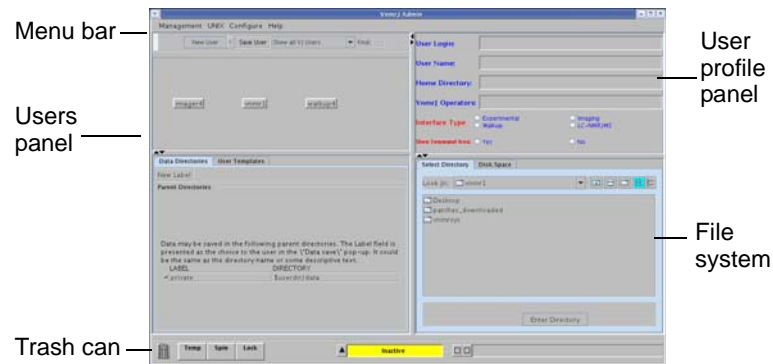

Figure 3. VnmrJ Administrator Window
- c. Enter the administrator password, if prompted, to start VnmrJ Admin, see Figure 3.
VnmrJ Admin interface, see Figure 3, provides the tools for administering VnmrJ software and user accounts. The menus are described below.